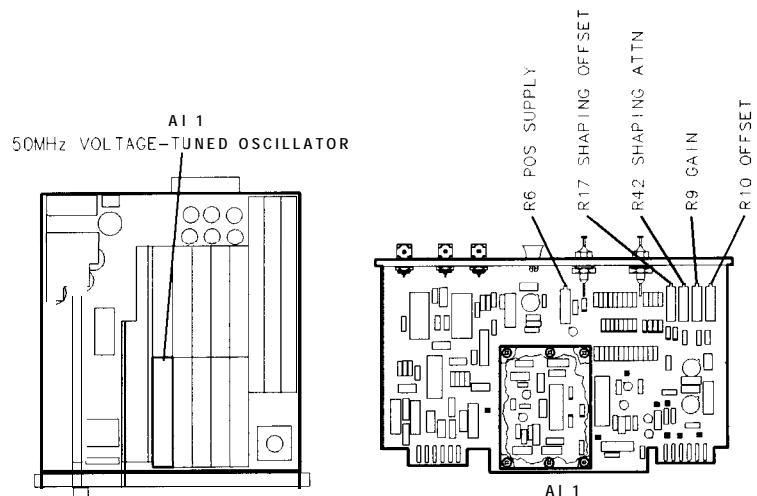

Figure 3-79. Location of 50 MHz VTO Adjustments
11. Adjust All OFFSET A11R10 and/or All GAIN A11R9 for VTO frequency of $28.750 \text{ MHz} \pm 0.005 \text{ MHz}$ as indicated by CRT annotation. See Figure 3-79 for location of adjustment.
14. Adjust All POS SUPPLY A11R6 for a DVM indication the same as that noted in step 12. See Figure 3-79 for location of adjustment.